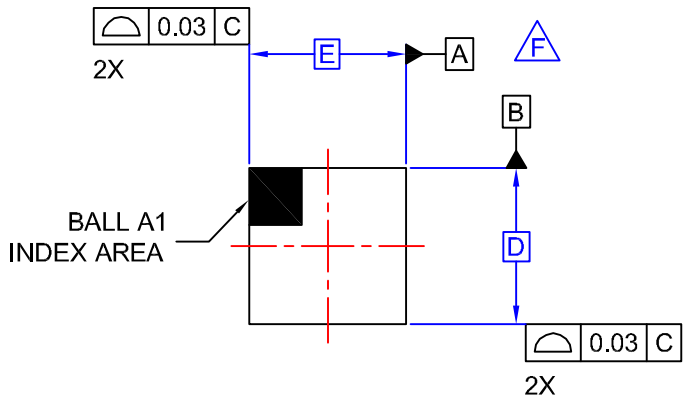

**Figure 31. Input Power Selector for Wireless Charging System**
FPF3042 can be used as an input power selector supporting Travel Adaptor (TA) and Wireless Charging (WC) with a single-input-based battery charger or Power Management IC (PMIC), including a charging block as shown in Figure 31. The system can recognize an input power source change between 5 V TA and 5 V WC without detection circuitry because FPF3042 has a 100 ms transition delay. OTG Mode can be supported without an additional power path, such as a MOSFET.